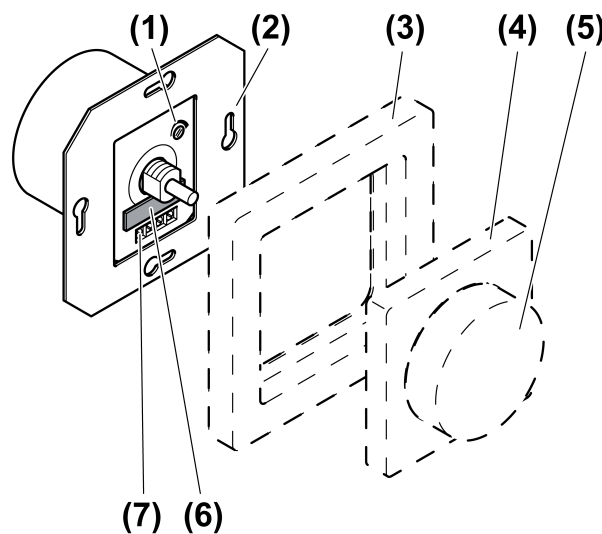

Figure 1: Device components
- Adjust basic brightness by turning the adjuster (1) (figure 1).